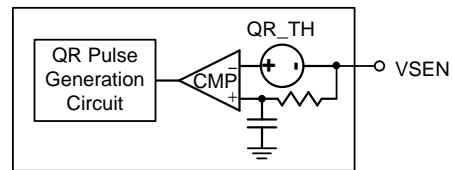

Figure 11. VDD Controller : Quick Response Triggering Circuit
When the transient load step-up becomes quite large, it is difficult for loop response to meet the energy transfer. Hence, the output voltage generate undershoot to fail specification. The RT3661AB has Quick Response (QR) mechanism which is able to improve this issue. It adopts a nonlinear control mechanism which can disable interleaving function and simultaneously turn on all UGATE one pulse at instantaneous step-up transient load to restrain the output voltage drooping. The output voltage signal behavior needs to be detected so that QR mechanism can be triggered. Refer to Figure 11, the output voltage signal is via a remote sense line to connect at the VSEN pin. The QR threshold can be set by SET1 pin setting for VDD controller refers to Table 3.